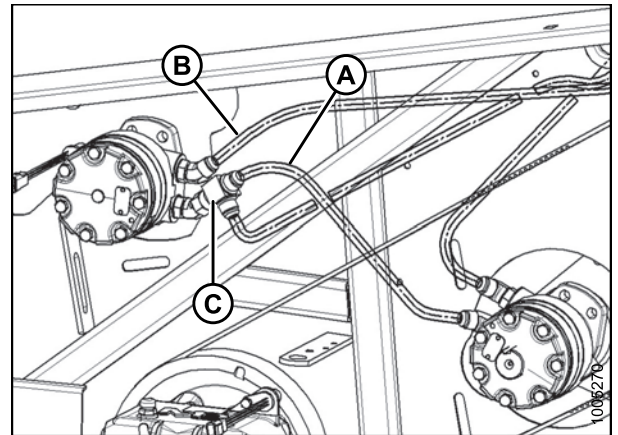

Figure 4.55: Early-Build 2015, 2014 and earlier Factory Configuration (M150, M155, and M200)
1. Press screwdriver against latch in opening (A) and lift to open header left-hand driveshield. Shield will latch at (B) to stay open.
2. Check hose routing at the reel motor. The header is factory-configured for M150, M155, and M200 Windrowers as shown in Figure 4.55: *Early-Build 2015, 2014 and earlier Factory Configuration (M150, M155, and M200)*, page 125.